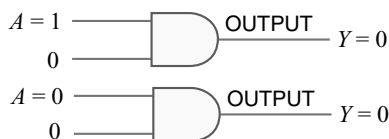

Fig. 24.44
**Theorem 8.** ( $A \cdot 0 = 0$ ). This theorem states that variable  $A$  ANDed with 0 always produces 0. Recall that any time one input to an AND gate is 0, the output is 0 regardless of the value of the variable  $A$  on the other input. This theorem is illustrated in Fig. 24.44.